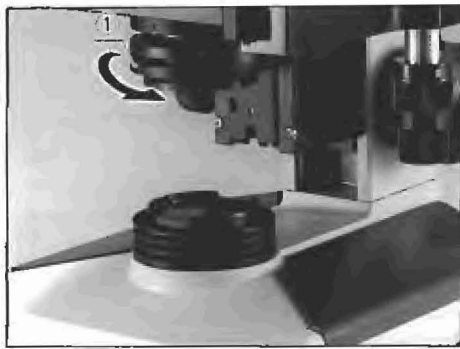

Fig. 22
- 1) Turning the diaphragm lever (①) counterclockwise reduces the diaphragm opening. (Fig. 22)